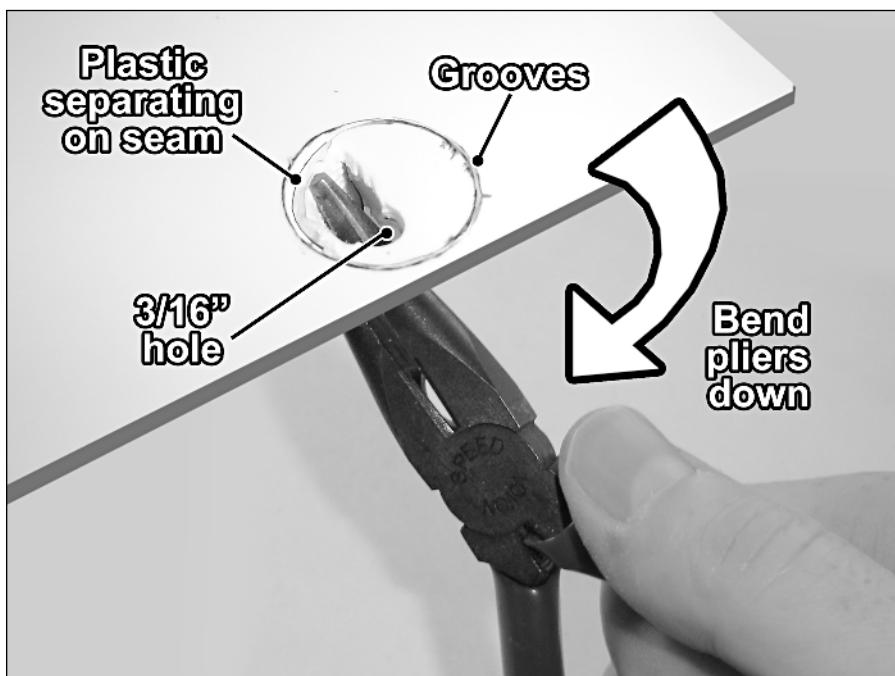

FIGURE 7-3: Bending, cracking, and separating the plastic.
7. Press upward with your thumbs against the back of the plastic to bend the grooves along the sides of the main shape. The grooves will then snap open and separate the plastic, as seen in Figure 7-3.